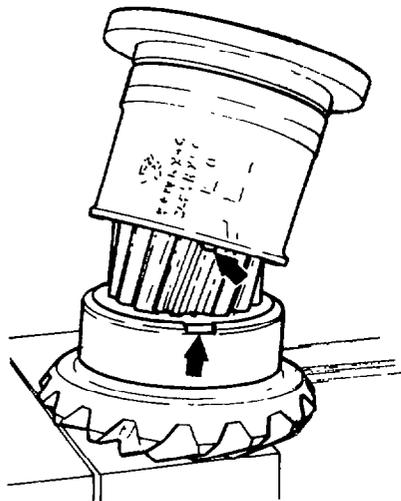

Fig. 319 — Installing Bearing Retainer Housing
- h. Install the bearing retainer housing onto the shaft assembly ensuring that the alignment pin in the housing aligns with the slot in the bearing cup (see fig. 319).